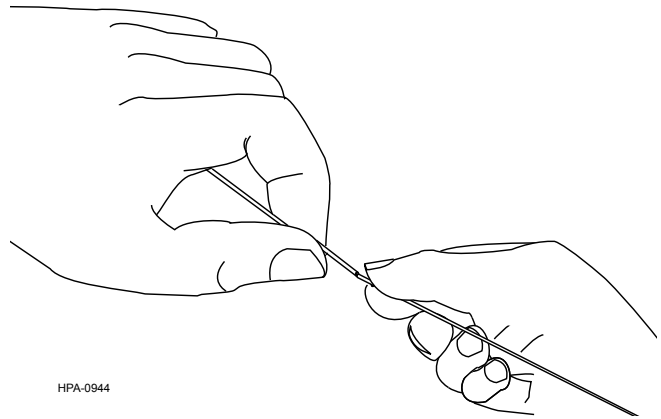

Figure 9
- Step 3:** Snap the buffer tube at the score mark by hand and carefully slide the severed section of buffer tube off the fibres (Figure 9).